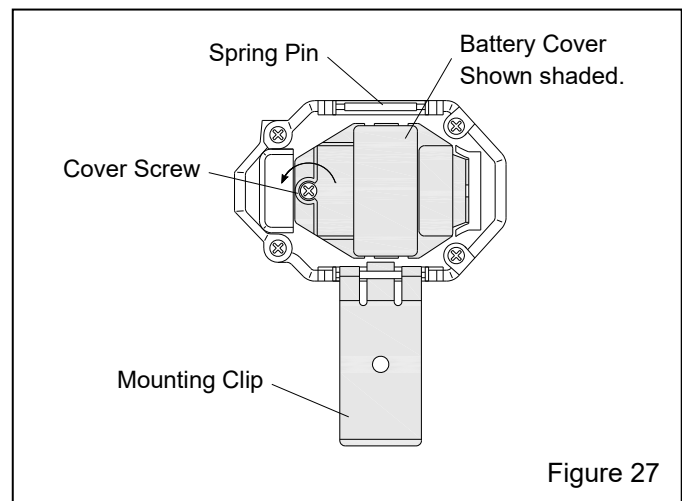

Figure 27
## 6.1 Replacing the Lithium Battery – Figures 27 and 28
**6.1.2** From the back of the monitor, pry the mounting clip off the spring pin and swing it away from the battery cover, as shown in Figure 27.